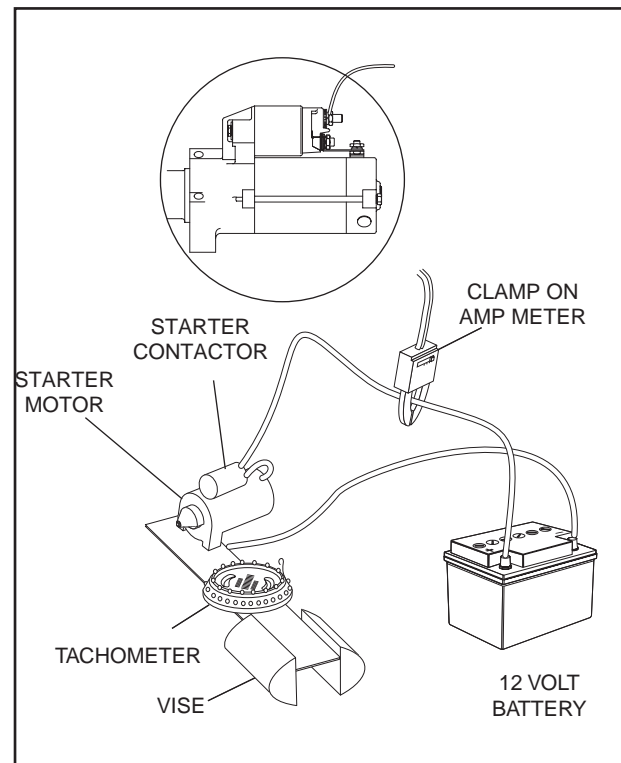

Figure 7-19. – Testing Starter Motor Performance
It is recommended that the Starter Motor be removed from the engine when testing Starter Motor performance. Assemble starter to test bracket and clamp test bracket in vise (Figure 7-19).
2. Connect jumper cables and clamp-on ammeter as shown in Figure 7-19.